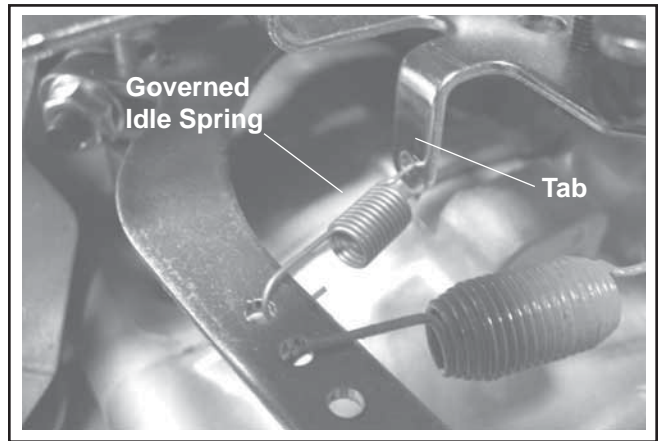

Figure 18. Governed Idle Spring Location.
An optional governed idle control system is supplied on some engines. The purpose of this system is to maintain a desired idle speed regardless of ambient conditions (temperature, parasitic load, etc.) that may change. Engines with this feature contain a small secondary spring connected between the governor lever and the lower adjustment tab of the main bracket. See Figure 18.
3. Release the governor lever and allow the engine to return to the governed idle speed. Check it with a tachometer against the equipment manufacturers recommended idle speed. Governed Idle Speed (RPM) is typically 300 RPM (approximate) higher than the low idle speed. If adjustment is necessary, bend the adjusting tab on the speed control assembly to set. See Figure 18.